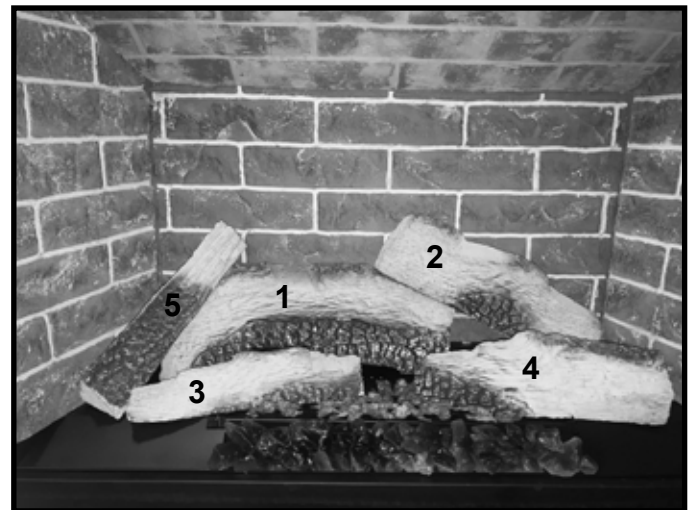

Figure 8 Install Log #5
- LOG #5:** Locate and install Log #5. This log does not have any “burn out” features painted on the log. The “left” end of this log will rest on the base pan and the “right” end will rest on the “left” end of Log #1. See Figure 8.